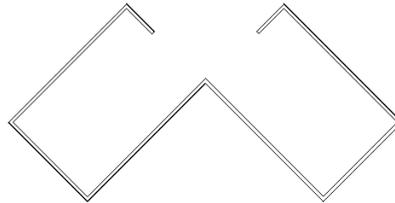

Figure 3-49 The sketched inclined wall exterior profile
- Now, create the next two wall segments of lengths 60'(18288 mm) and 14'(4267 mm) to complete the inclined wall exterior profile, as shown in Figure 3-49.